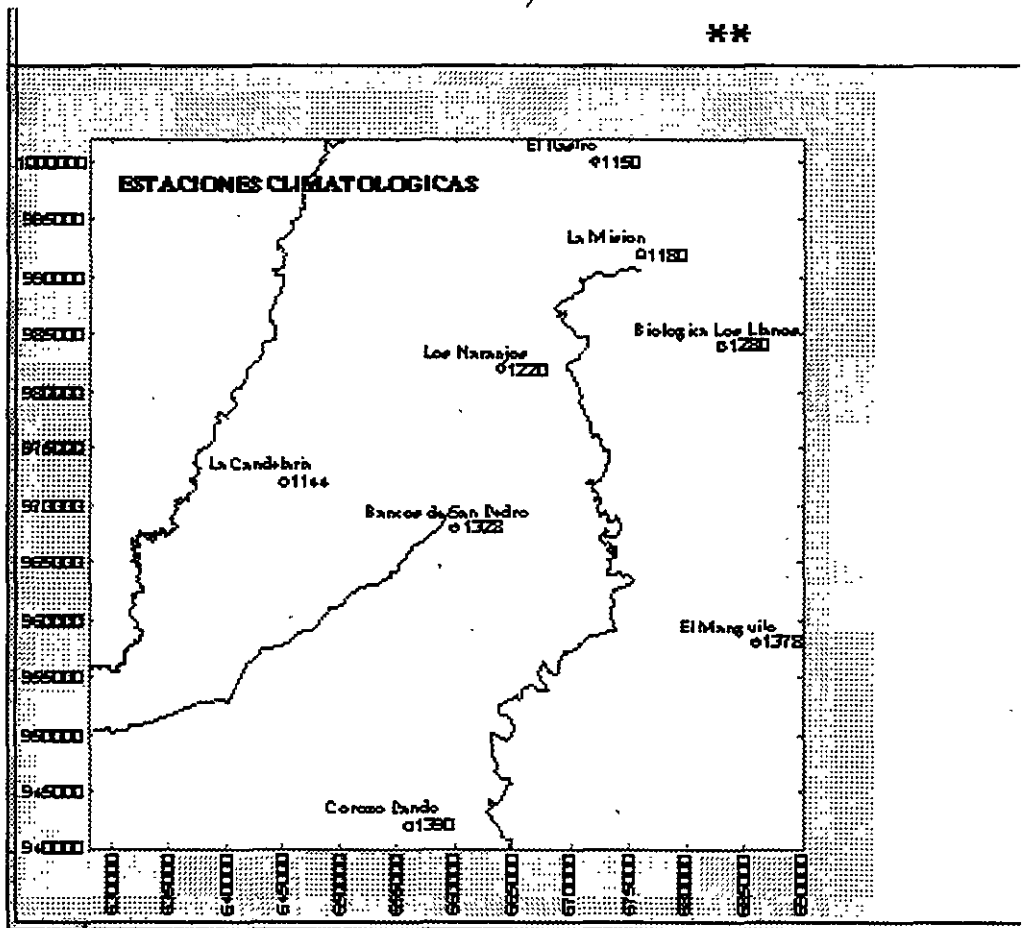
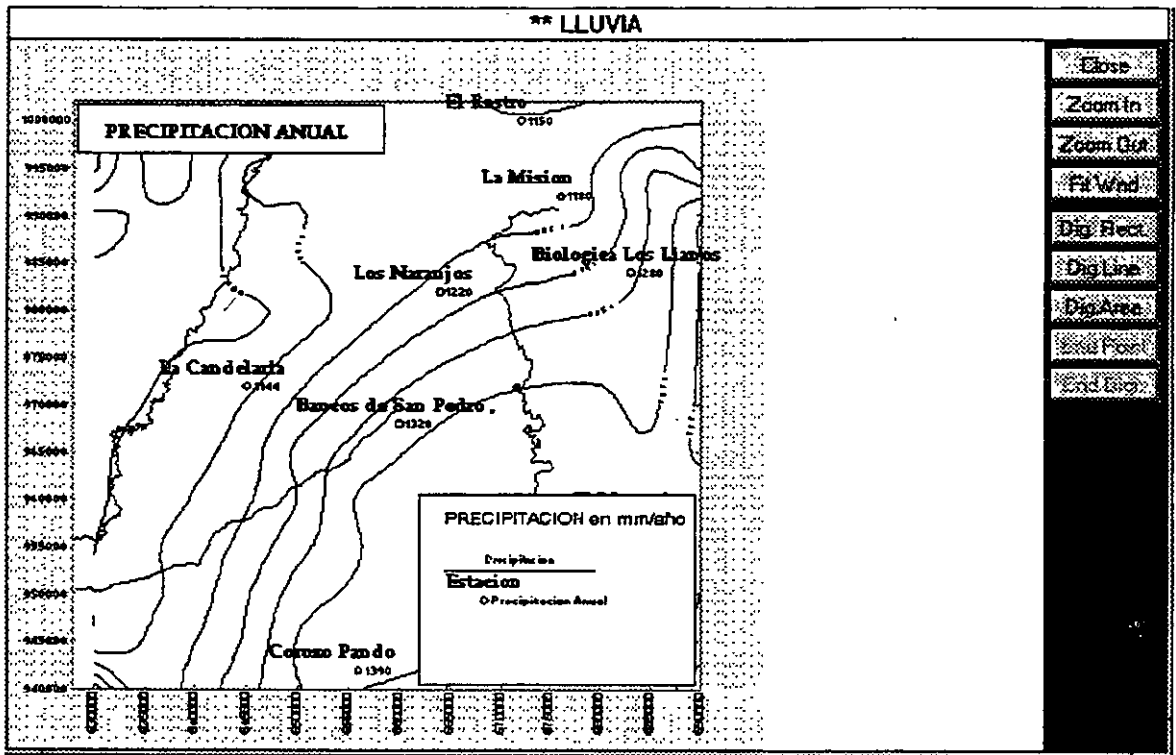

Figure 18-14
Figure 18-15
After rainfall data, e.g., are entered and a random model created using the data entry Rainfall, you may use the Mapping application to create two maps: (1) Location map showing locations of meteorological stations and their names (see Figure 18-14), and (2) Contour map of average annual rainfall expressed in mm/year (see Figure 18-15).